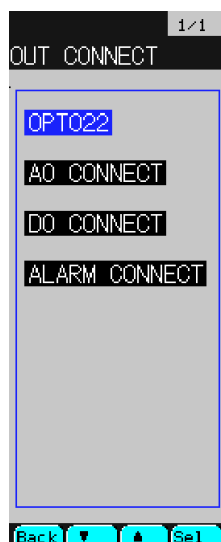

Fig. 4-12
- ② Press "▼" repeatedly until the cursor is aligned with "OUT CONNECT" and press the "Sel" key to display the "OUT CONNECT" screen (Fig. 4-12).